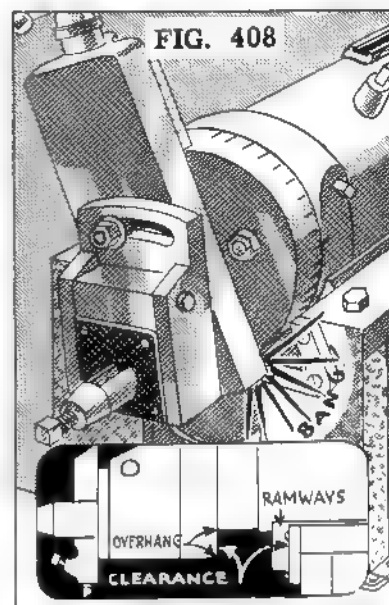

FIG. 409
3. Assume that an angular cut of 60° , is indicated in Fig. 409, must be made.